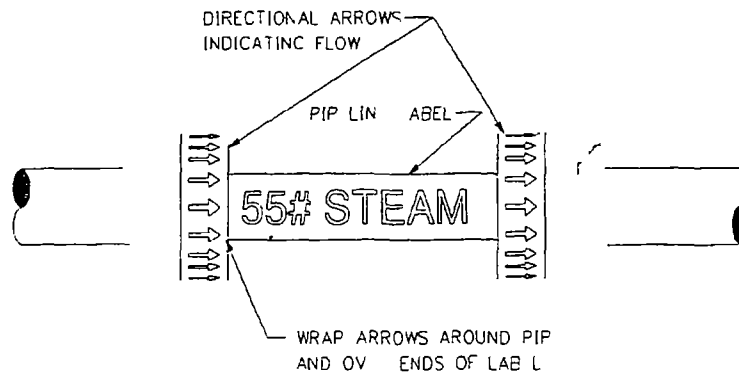

Fig 3.1
- 3.6 Tape pipeline markers shall be applied by cleaning the piping or insulation and affixing the tape longitudinally on the pipe. The ends of the tape shall be further affixed to the pipe by wrapping self adhesive tape with arrows denoting pipeline flow direction around the blank tape at either ends and completely around the pipe. The total installation shall look like fig 3.1